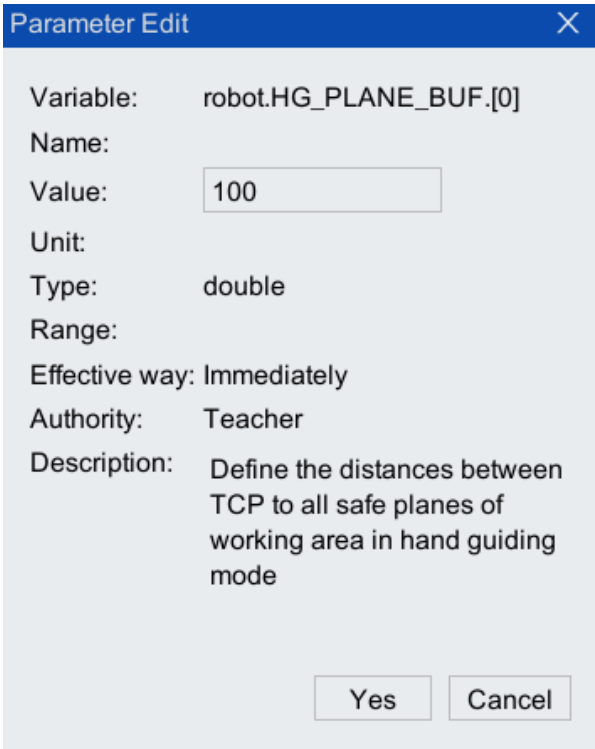

Figure 5-38 Drag teaching safety work buffer area width parameter configuration
Step4. Click <Edit> and configure the [Value] in the pop-up [Parameter Edit] interface (as shown in Figure 5-38). Parameter description is shown in Table 5-9.